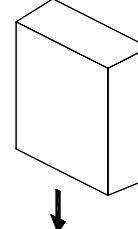

fig 8
- ② Install the receiver: shoot the hanging hole (as fig 6) to the tap screw on wall then pull down the Receiver case slightly (as fig 8)